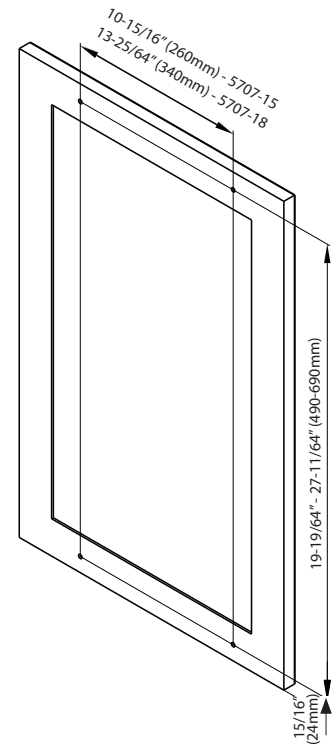

Figure 2
**4)** Refer to figure 2, Door Dimensions, to begin marking your door panel for mounting. **WARNING: ALL DOOR MOUNTING LOCATIONS MUST BE IN THE THICK PANEL OF YOUR DOOR!** Use your 1/16" Drill Bit and pre-drill your door mount hole markings. Place Up Bracket (D) into the top of Door Frame (C) and place Down Bracket (E) into the bottom of Door Frame (C). Attach Door Frame (C) to the back of your door using 4 of the 5/32x18MM Wood Screws (#5). Use your Phillips head screw driver and tighten all 8 pre-installed fasteners.